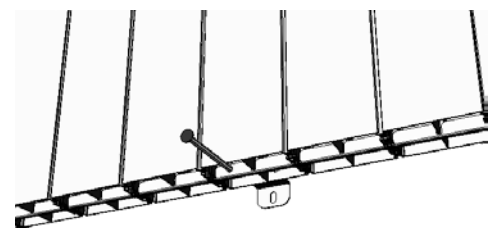

Figure 6
- Once hung the unit on the wall, mark the free hole of the wall support (shown in figure 6).
- Finally hang the heater on the hooks and screw the wall support to the wall firmly (shown in figure 6).